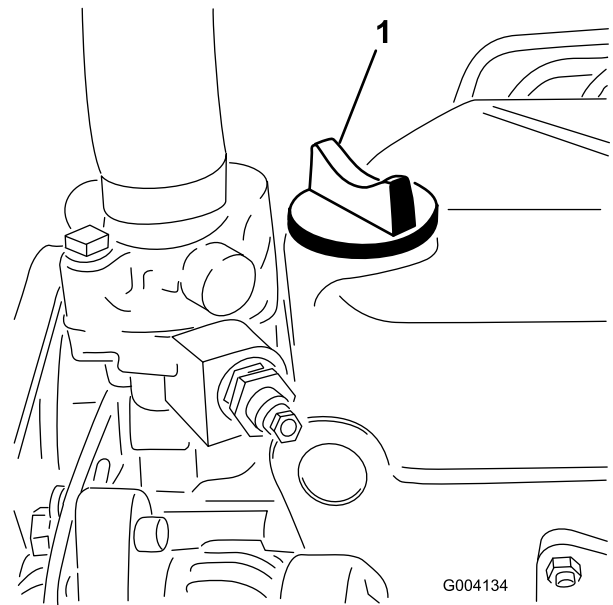

Figure 30
5. If the oil level is below the Full mark, remove the fill cap (Figure 30) and add oil until the level reaches the Full mark on the dipstick.